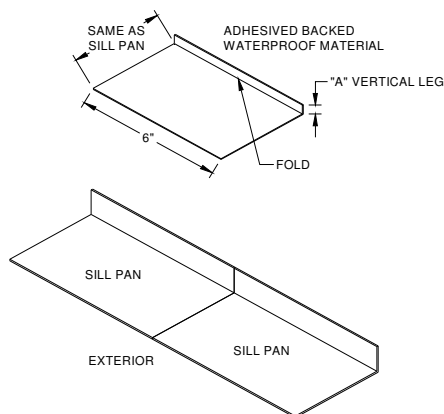

Figure 7:
- Cut a piece of adhesive backed waterproof material to fit the joint as specified in Figure 7, $A=1/4"$. Select waterproofing material that is compatible for your application. Waterproofing material must have an adhesive backing and be capable of withstanding the temperature ranges for your region (Figure 8).